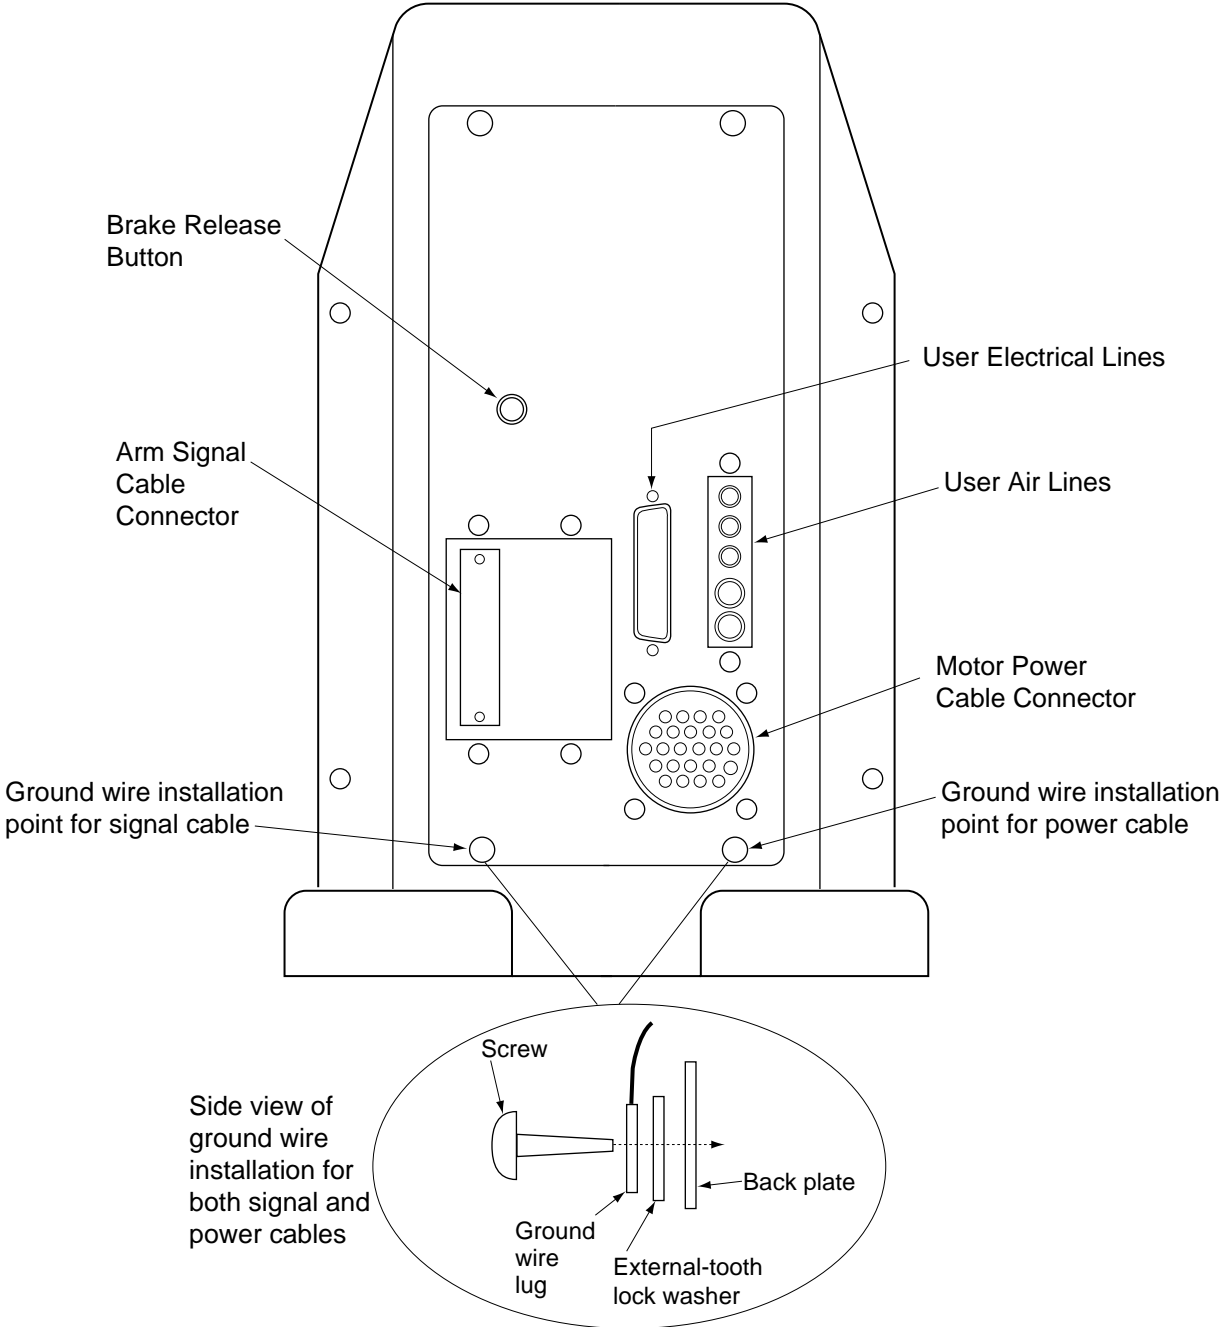

Figure 5-6. Adept 550 Robot Back Plate and Ground Connections
1. Connect the circular end of the motor power cable to the matching connector on the back plate of the robot. Tighten firmly by hand only. See Figure 5-5 and Figure 5-6.
- b. Place the external-tooth lock washer against the back plate over the empty hole, then place the ground wire lug over the washer. See Figure 5-6.
1. Connect the cable end with the ground wire to the matching Signal connector on the back plate of the robot. Pull gently on the connector body to ensure it is securely latched. See Figure 5-6. (If you need to remove this connector later, there is a release button on the underside of the cable connector.)
Under some circumstances you may want to manually position Joint 3 without turning on High Power. For such instances, a brake-release button is located on the robot backplate (see Figure 5-6). When system power is on, pressing the button releases the brake, which allows movement of Joint 3.